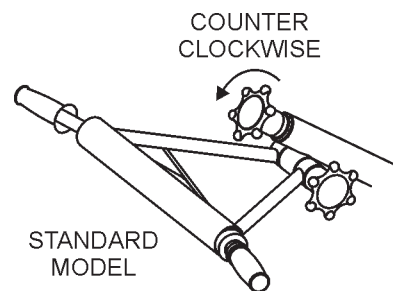

Figure 11. "No Pitch" Position (Standard)
1. Expose the pitch cable to maximum by adjusting the handle pitch to the "no pitch" position. On the standard model turn the pitch control counter-clockwise, (Figure 11). On the Quick-Pitch™ model, pivot the pitch handle forward or no pitch, (Figure 12).